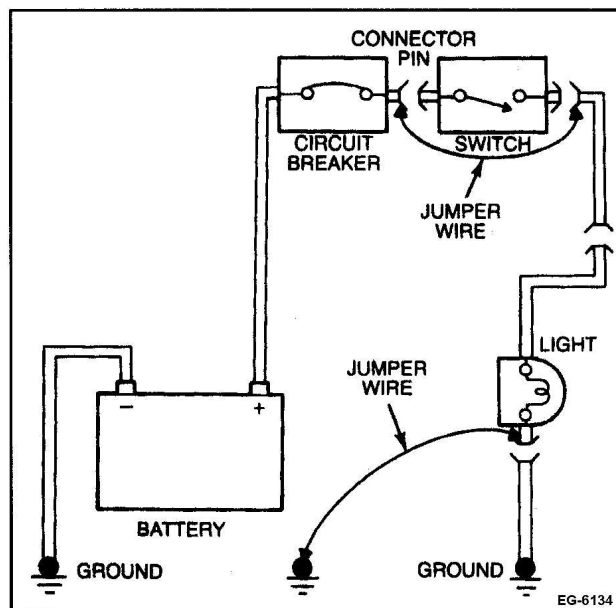

Figure 259 Troubleshooting Using Jumper Wires
Jumper wires (See Figure 259, page 429) allow jumping across a suspected open or break in a circuit.
- If the circuit (See Figure 259, page 429) works properly with the jumper wire in place, but does not work when the jumper wire is removed, the circuit is open.
In the illustration Troubleshooting Using Jumper Wires (See Figure 259, page 429), an open in the ground circuit exists when: